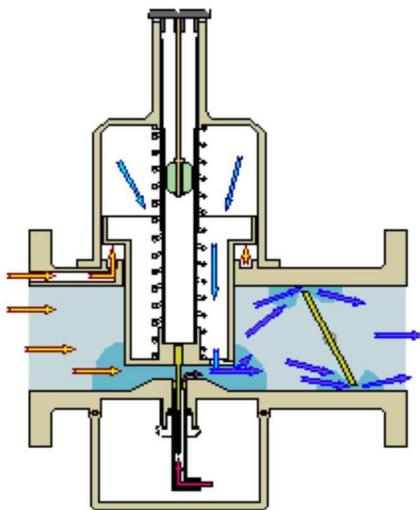

Fig 2a SU Carburetor butterfly closed
When the engine speed is constant the air velocity (vacuum) past the jet is directly proportional to the volume of air passing between the bridge and piston, ie. piston height regulates the air speed over the jet, and piston height is proportional to engine vacuum. **Figures 2a** and **2b** indicate the piston and butterfly positions at low and high engine revs. In both instances the engine under load and is running at a constant speed. The air velocity over the jet in both instances is the same.
**Not So!** The opening between the piston and bridge in **figure 2a** is small when compared with the overall throat diameter (piston in its optimum position). Though the engine's air demand is small, the velocity over the jet is high because of the small choke area. The high velocity air draws the fuel out of the jet.